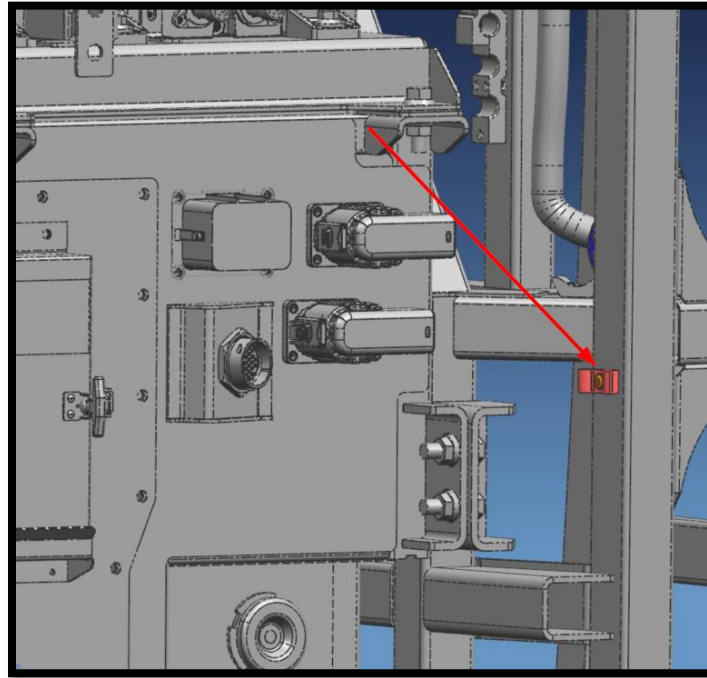
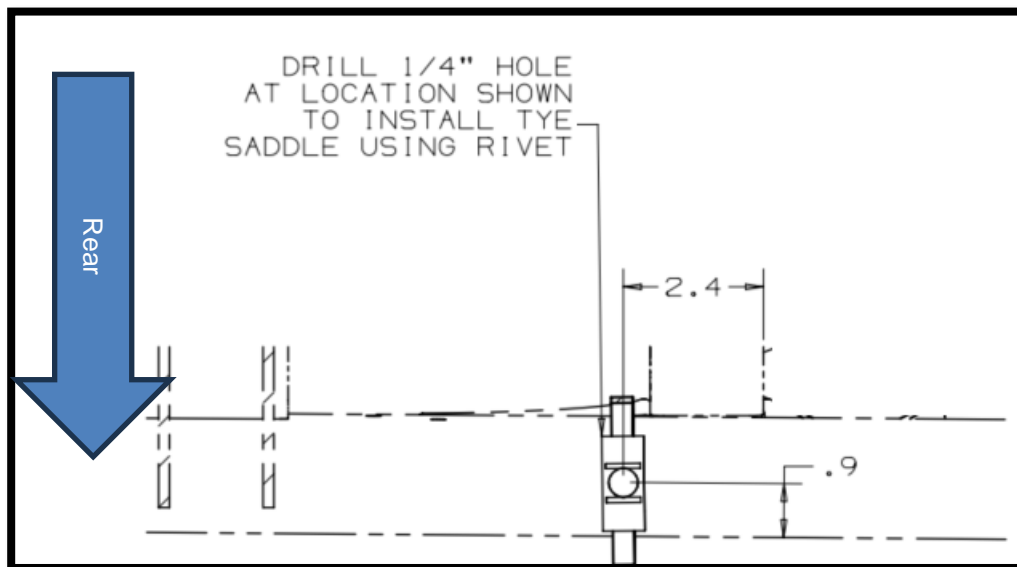

Figure 4 - Second saddle base location (view from engine compartment)
Figure 5 - Drill location of the second Saddle Base
2.6 Install the second provided saddle base 19-11-1008 on the location shown in figure 4. Attach the saddle by drilling a 1/4" inch hole at the location shown in figure 5 and securing the saddle to the frame using rivet 19-13-291.